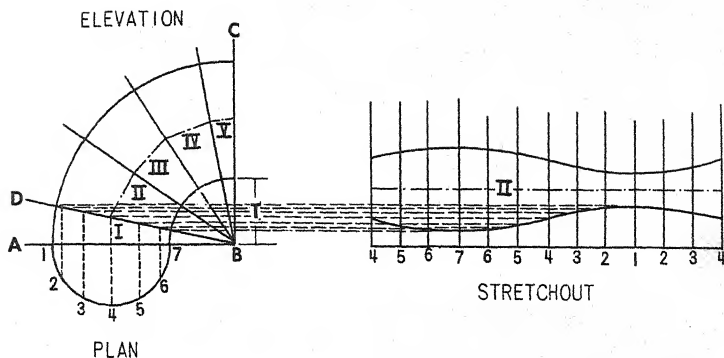

Figure 255.—Development of a five-piece 90° elbow.
The parallel-line method can also be used to develop an elbow of any desired diameter, depth of throat, or number of pieces. Figure 255 illustrates the development of a five-piece 90° elbow. If you feel the need for a bit of brain calisthenics, “turn to” on this one with a pair of dividers and a straightedge.
1. Using figure 255 as a model, draw an angle similar to *ABC*.
12. Erect perpendiculars from the base line of the stretchout and number them as shown in figure 255. (The number with which you begin and end in your stretchout will determine the location of the seam in your finished elbow. The best location for a seam on an elbow is on the side, so you number from 4 to 7 to 1 to 4. Numbering from 1 to 7 to 1, as was shown in the previous development, would place the seam on the heel. This is not desirable as it would take more time and material to complete the seam. Numbering from 7 to 1 to 7 would place the seam in the throat of the elbow, and that too, would be undesirable, since often the space available for seaming the throat is too little to make a strong seam. The location of the seam is a matter of preference and is determined by the job you are laying out.)